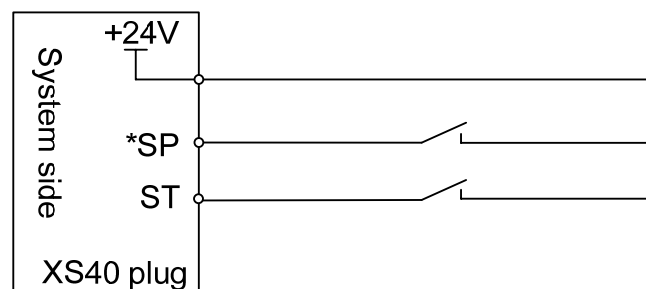

Fig. 4-11-2
*SP, ST single external connection shows in the Fig. 4-11-2.